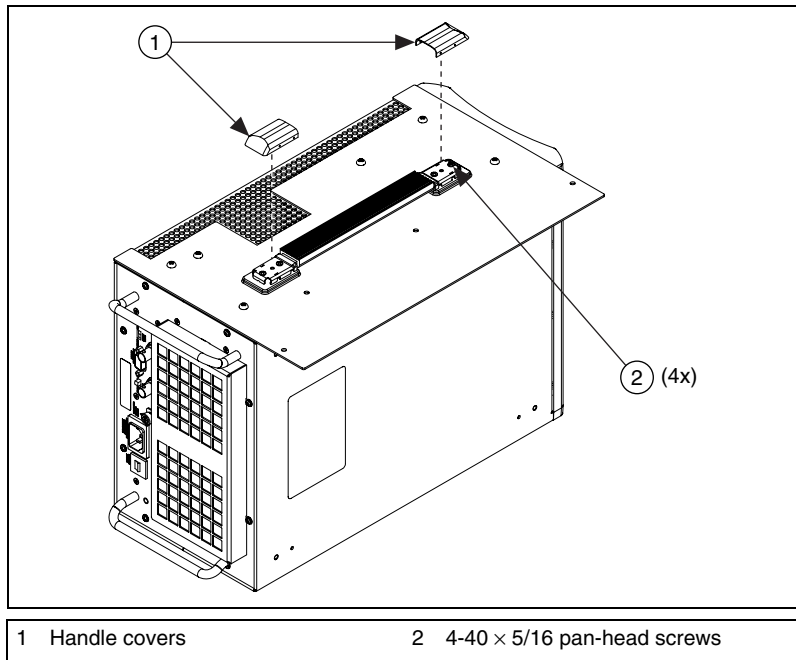

Figure 4. Reinstalling the Handle and Handle Covers
5. Reinstall the handle using the supplied 4-40 × 5/16 pan-head screws, as shown in Figure 4. Reinstall the handle covers by snapping them over the handle mounting plates.